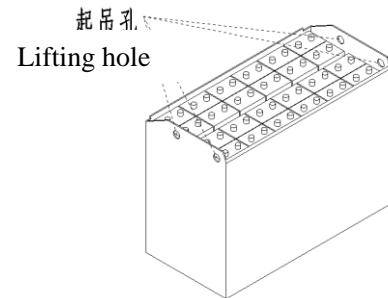

Figure 2-42
(4) Figure 2-42 shows how to lift a battery box.